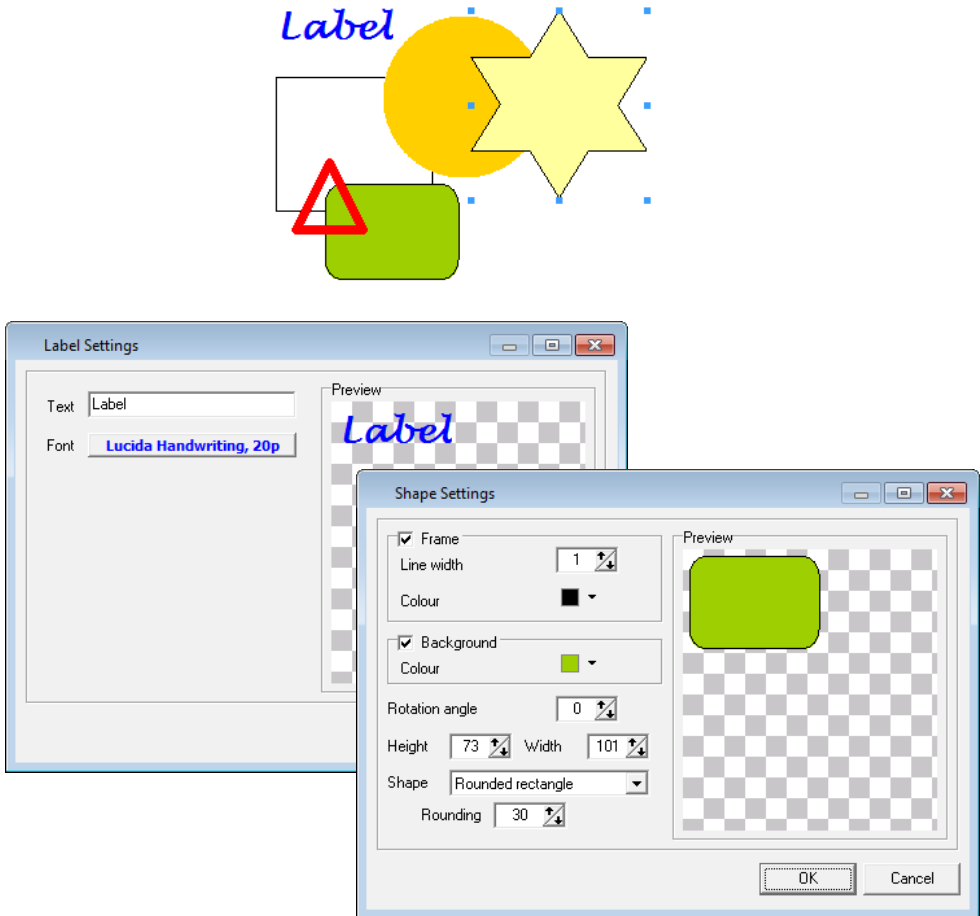

Figure 9.16. Examples of labels and shapes with the appearance settings window
- Settings of labels (**Figure 9.16**) are as follows:
- Settings of shapes (**Figure 9.16**) are as follows: